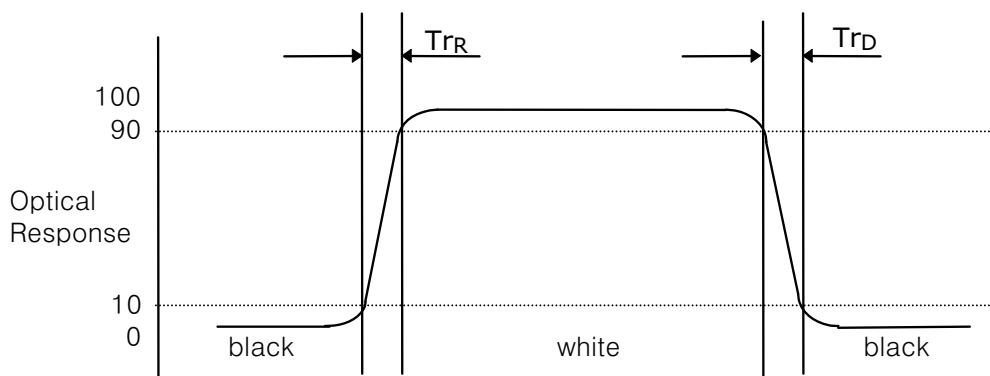

FIG. 3 Response Time
- Response time is the time required for the display to transition from black to white(Rise Time, Tr_R) and from white to black(Decay Time, Tr_D). For additional information see FIG 3.